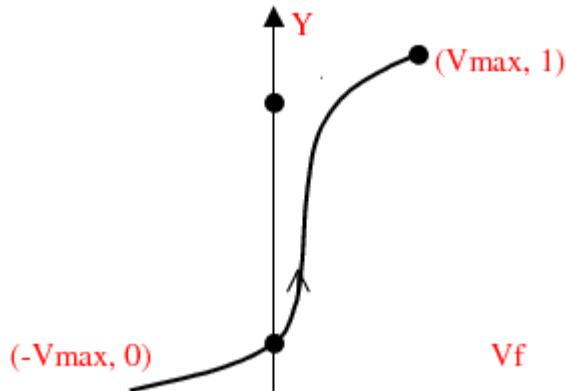

Figure 30 Normalized Lower Branch of a Hysteresis Loop
3. Normalize the lower branch of the hysteresis loop, as shown in Figure 30 on page 597. For each data point (V, P) , it is normalized by: